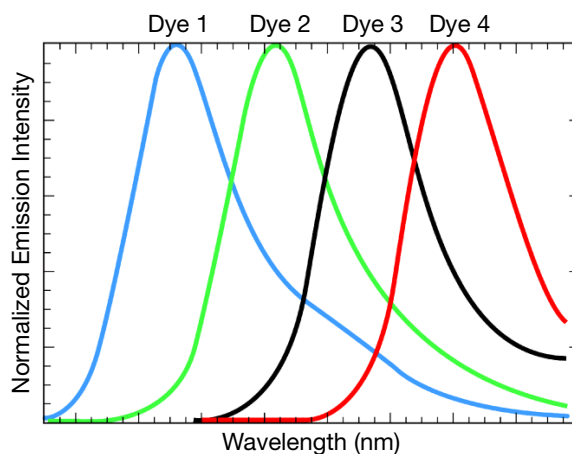

Figure 7 Emission spectra of the four BigDye dyes, where Dye 1 = Big-d110, Dye 2 = R6G, Dye 3 = Big-dTAMRA, and Dye 4 = Big-dROX
The fluorescent dyes used in BigDye® terminators, BigDye® primers, and dRhodamine terminators have narrower emission spectra and less spectral overlap than the rhodamine dyes used in previous sequencing kits. As a result, the dyes produce less noise. Figure 7 shows the normalized emission spectra and spectral overlap of the four dyes in the BigDye Terminator Cycle Sequencing Kit.
- **Multicomponent analysis** – Each fluorescent dye emits its maximum fluorescence at a different wavelength, but there is some overlap in the emission spectra (Figure 7 on page 8). Thus a signal generated primarily in one color channel may yield a lower signal in an adjacent color channel. Multicomponent analysis separates the four different fluorescent dye signals into distinct spectral components by mathematically filtering fluorescence signal from dyes with emission spectra overlap
- **Quality value determination (QV)** – If the KB basecaller is used for analysis, the software assigns a QV for each base. The QV predicts the probability of a basecall error. For example, a QV of 20 predicts an error rate of 1%. The quality prediction algorithm is calibrated to return QVs that conform to the industry-standard relationship established by the Phred software. If your pipeline involves analysis with Phred software to assign QVs after the data is basecalled, you can simplify your workflow and use the KB basecaller instead. The KB basecaller can perform basecalling and assign QVs. Then, you can generate phd.1 or \*.scf files using the KB basecaller to integrate with your downstream pipeline.